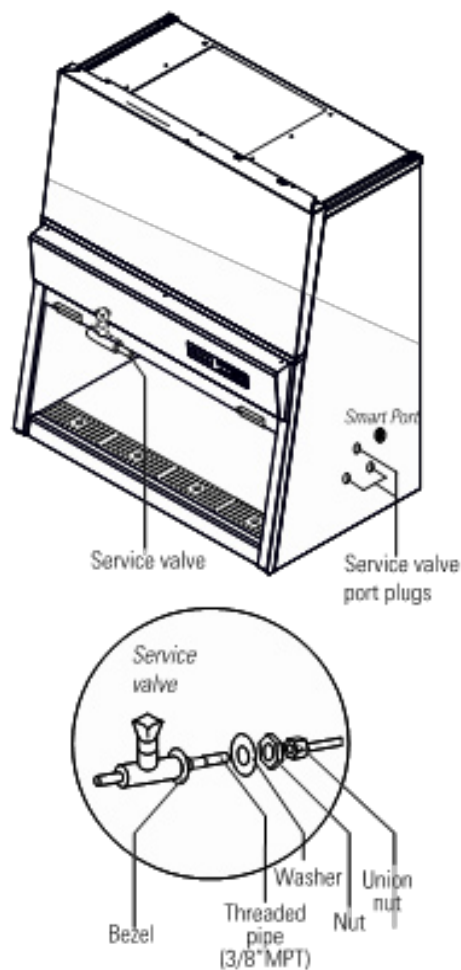

Figure 2-5. Valve Assembly and Installation
4. Referring to Figure 2-5 on the following page, slide the bezel onto the threaded pipe of the service valve. Apply a thin bead of silicon to the inner flange of the service valve.